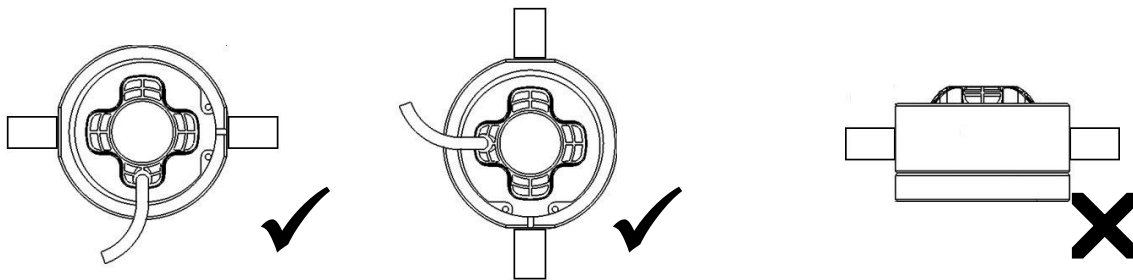

Figure 1 - Correct and Incorrect Mounting Orientations
- The fuel flow sensor contains shafts on which the oval rotors spin. The fuel flow sensor must be mounted so that these rotor shafts are always in a horizontal plane (parallel with the ground or water surface). The rotor shafts are parallel to the screws attaching the sensor cap to the sensor base, so ensure that these screws are in a horizontal plane. Please refer to Figure 1 below for examples of correct and incorrect orientations.